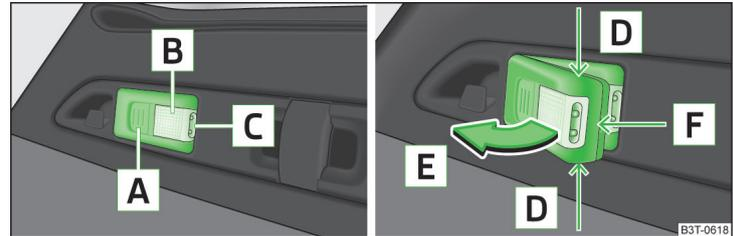

Fig. 110 Use light / remove light
- Lighting the luggage compartment - part **B** » Fig. 110 on page 103 illuminated (lamp in holder).
- If the lamp is not switched off and it is correctly inserted in the holder, the bulbs in the front part **C** » Fig. 110 on page 103 of the lamp are automatically switched off.
- If you press button **A** » Fig. 110 once, the lamp illuminates with 100 % light intensity.
- Grasp the lamp in the areas of the arrows **D** » Fig. 110 and swivel it in the direction of the arrow **E**.
- Lever off the cover for the rechargeable batteries with a narrow and pointed object from the location of the lock-off clips **F** » Fig. 110 on page 103.